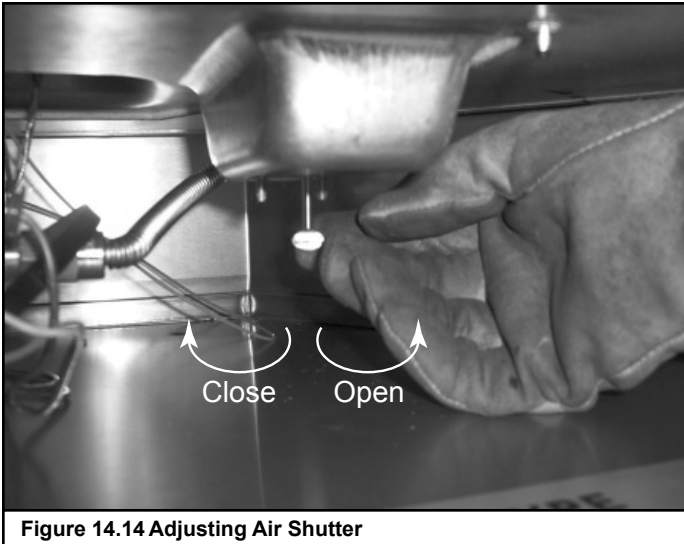

Figure 14.14 Adjusting Air Shutter
- Adjust air shutter for longer vertical runs. See Figure 14.14.